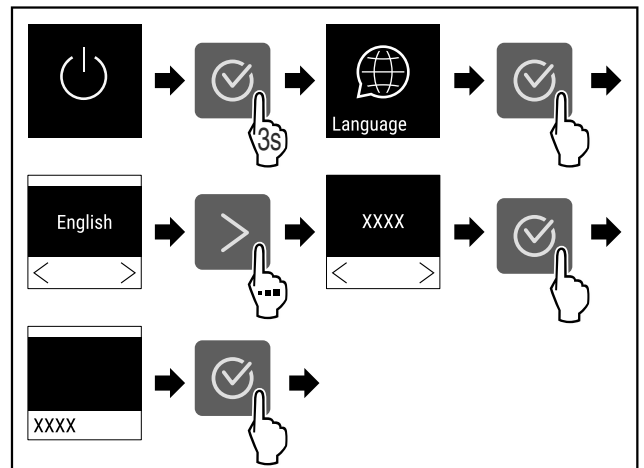

Fig. 52
- Complete steps (see Fig. 52) .